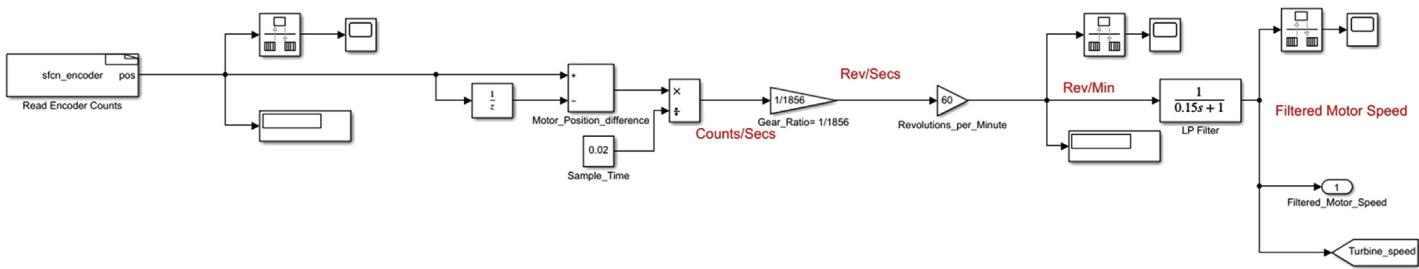

Figure 10.34 Turbine_speed Goto flag.
15. For the turbine_speed input, place a **Goto** flag named Turbine_speed in Chapter_10/Motor_Control/Motor_Speed_Sensor as shown in Fig. 10.34. Make sure the tag visibility is global. Place a **From** flag in Chapter_10/Motor_Control/Motor_Speed_Reference_Generator/Main_Controller with the name Turbine_speed.